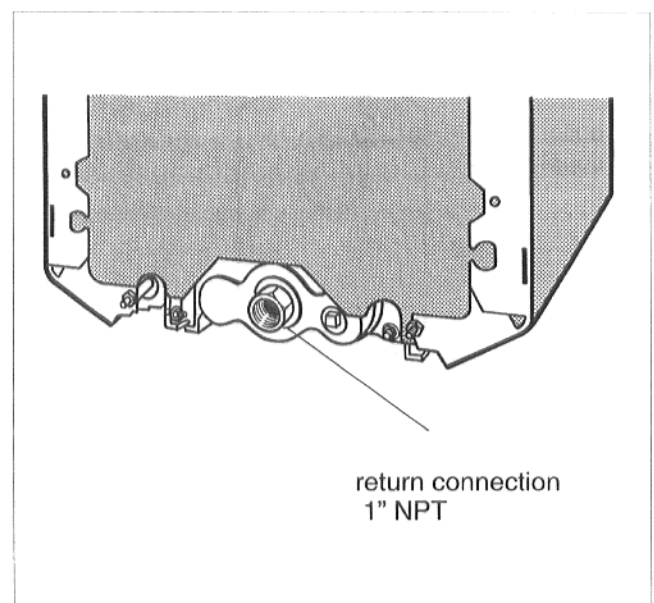

Fig. 8
**The return connection in the return circuit of the boiler is sealed in the factory and must not be removed. It is an important part for proper functioning of the boiler (Fig. 8). It is necessary to distribute water properly to all of the boiler sections.**